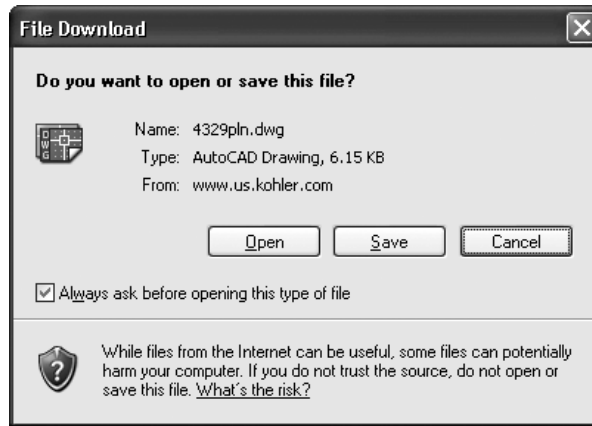

FIGURE 4-1.4A Saving a file from the Internet
- Click **Save** in the *File Download* dialog box (Figure 4-1.4a).